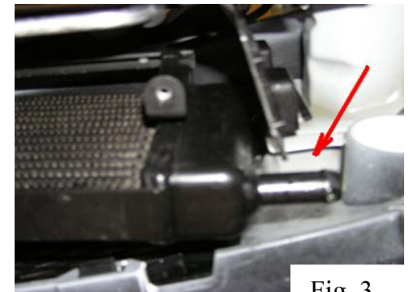

Fig. 3
- 13) Drain the coolant from the heat exchanger by removing the lower hose on the passenger side of the stock unit (Fig. 3).